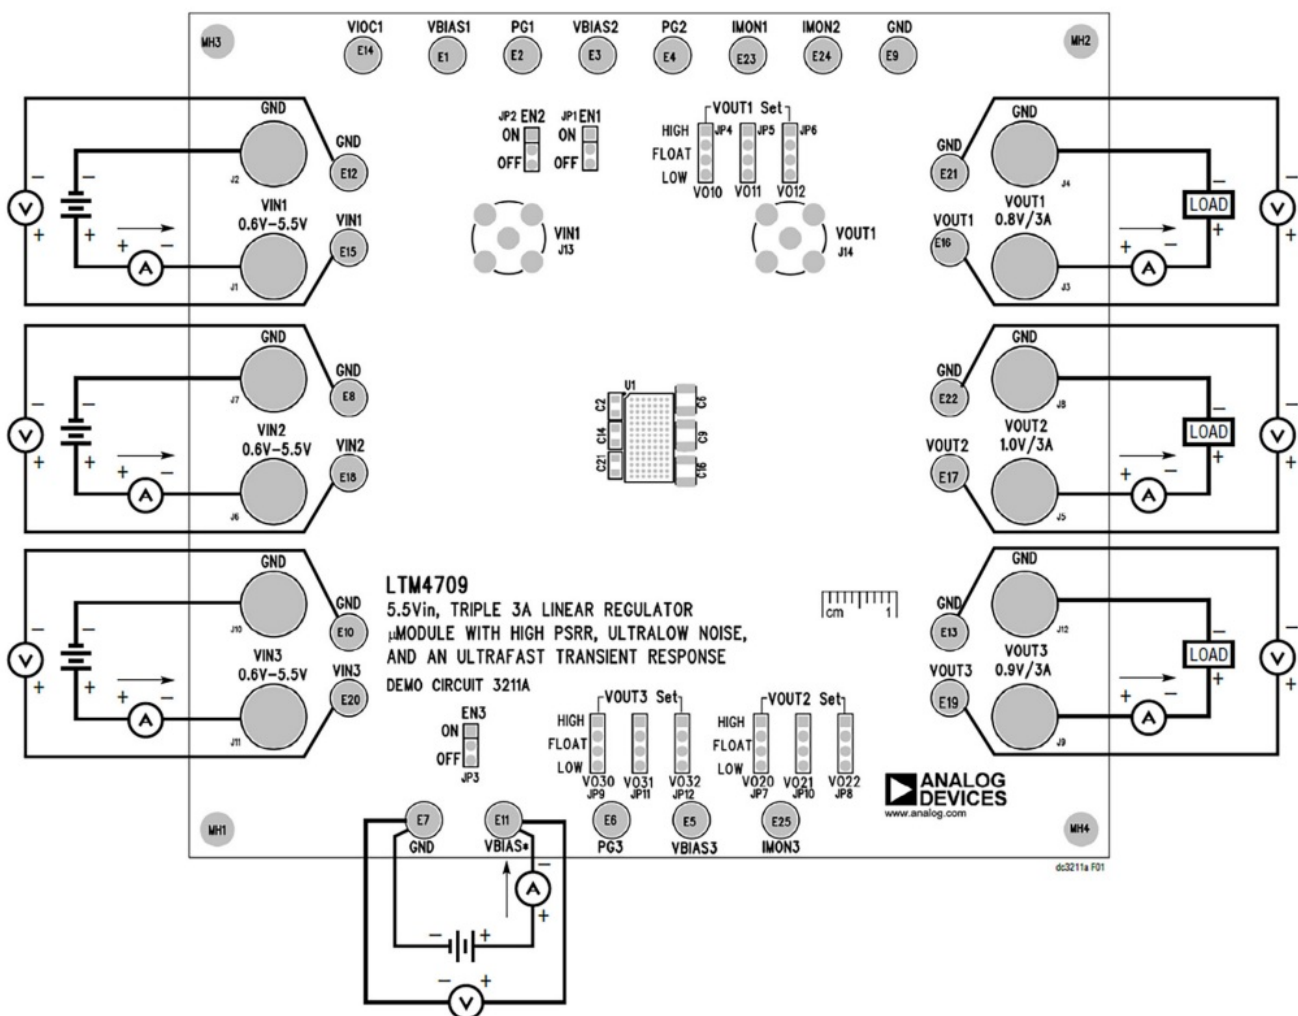

Figure 1. Measurement Setup of DC3211A
Demonstration circuit 3211A is an easy way to evaluate the performance of the LTM4709. See Figure 1 for proper measurement equipment setup and follow the procedure below.
1. With the input supplies off and turned down, make all the connections shown in Figure 1. Ensure that the VOn0, VOn1, and VOn2 jumpers to set VOUTn are in the proper positions for the desired output voltage according to the VOUTn selection matrix table in the LTM4709 data sheet. Also, ensure that the ENn jumpers (JP1, JP2, JP3) are in the ON position.